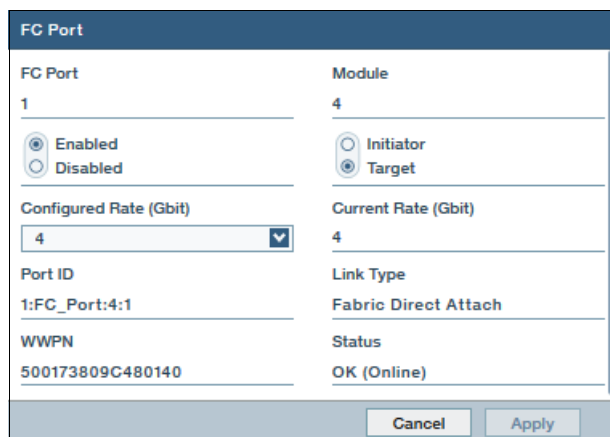

Figure 1-8 Viewing the FC port WWPN
- Scroll down if necessary to view the WWPN, as shown in Figure 1-8.
As shown in Figure 1-8, the WWPN is 500173809C480140, which means that the WWPN is from module 4, port 1.